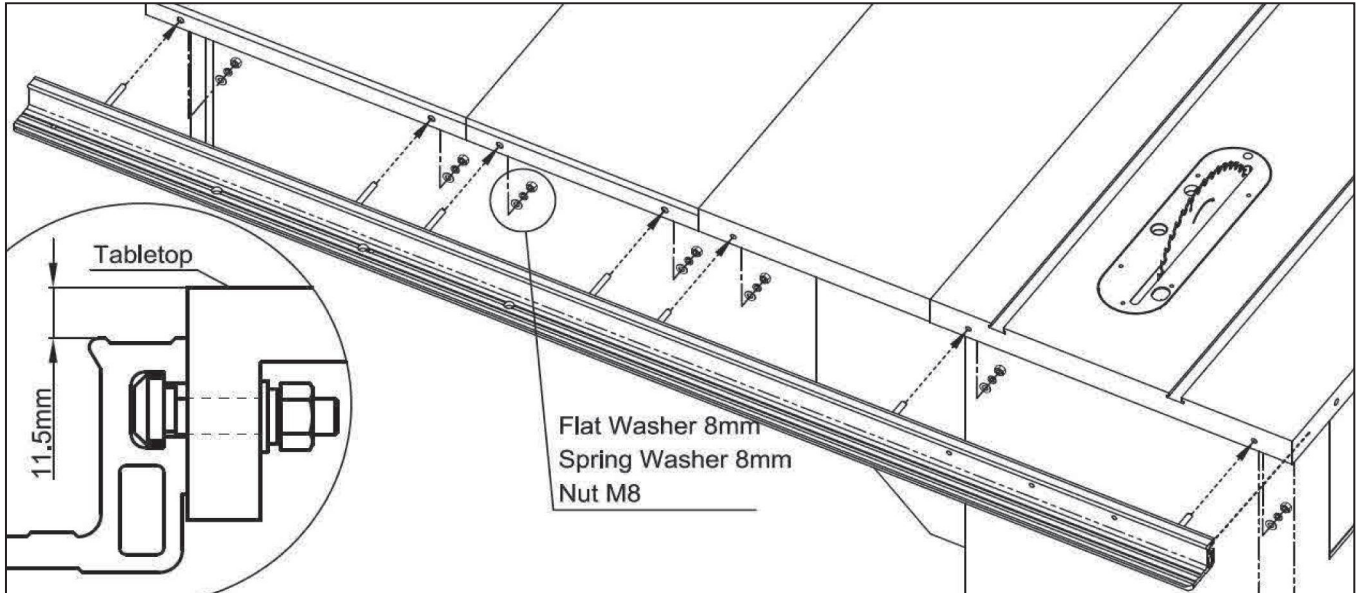
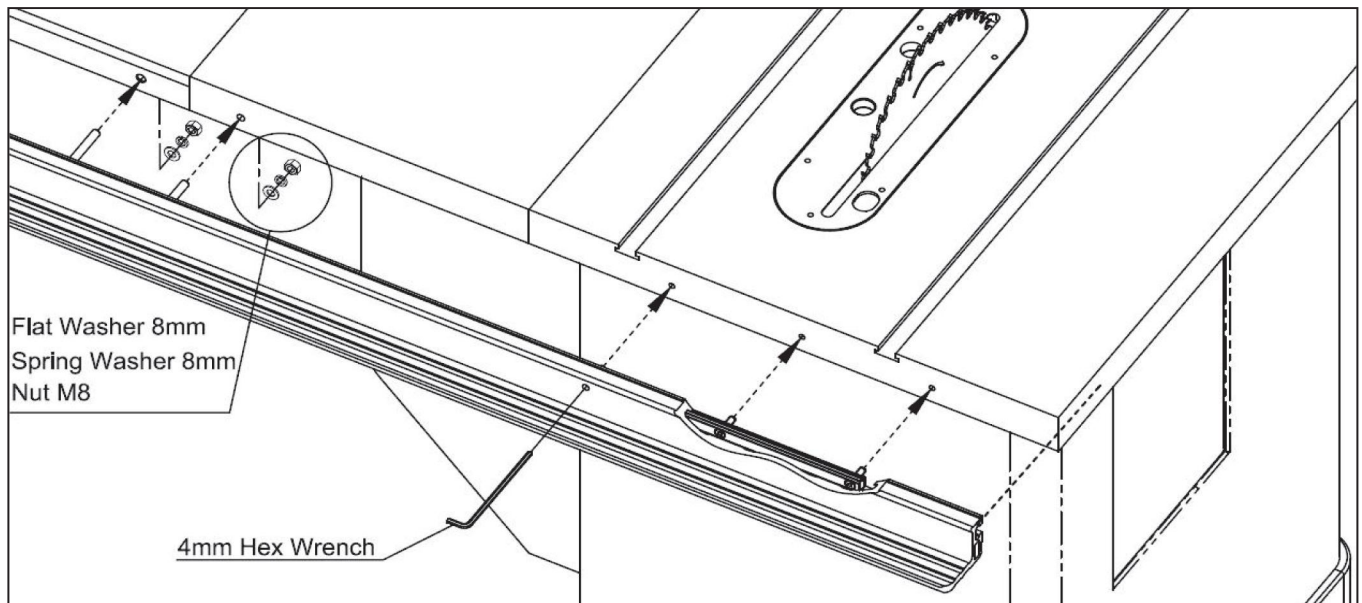

Fig. 6-7
Fig. 6-11
2. As illustrated in **Fig. 6-7**, proceed to install the Rear Guide Rail Assembly, and securely fasten the nuts. Make certain that the top surface of the guide rail is situated 11.5mm below the tabletop surface, and that the end of the guide rail aligns flush with the right side (as viewed from the rear side) of the main cast iron table before tightening.
4. Position the Rear Guide Rail Assembly as shown in **Fig. 6-11** and secure it by tightening the nuts. For the Rear Guide Rail Fixed Block, use the provided hex wrench to fasten the block in place. Ensure that the top surface of the guide rail is placed 11.5mm below the tabletop, as depicted in **Fig. 6-7**, and that the end of the guide rail aligns flush with the outer edge of the main table before the final tightening.